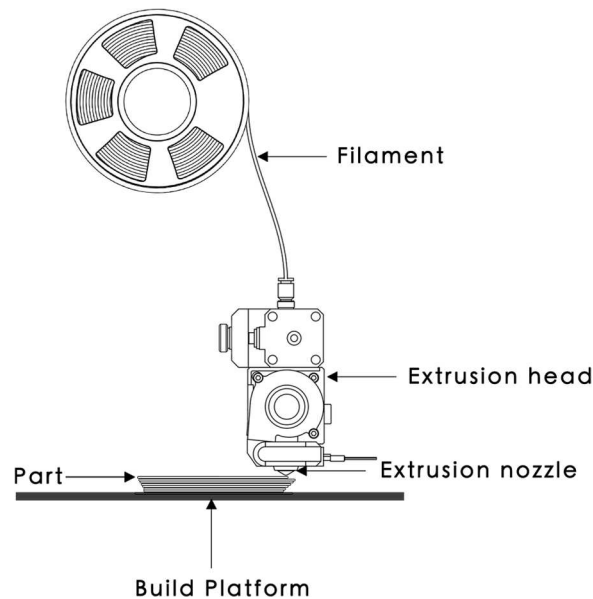

Figure 1. The material extrusion (ME) process.
Material extrusion (ME) is the second most popular form of additive manufacturing (AM) process with 844,800 and 499,500 searches on Google as well as Google Scholar, respectively, after Powder Bed Fusion that has been searched 578,000 and 26,820,000 times, respectively. The term ‘ME’ was commonly searched together with ‘Fused Deposition Modelling’ and ‘Fused Filament Fabrication’. These three terms refer to the same AM process of additively building up material by selectively dispensing through a nozzle or orifice [1]. The technology involves the material from a spool of filament that is loaded into the printer, melted above its glass transition temperature (T_g) for amorphous polymers and above its melt temperature (T_m) for semi crystalline polymers to be selectively dispensed through the heated extrusion nozzle and deposited onto the build platform at a predetermined location (Figure 1) [2].